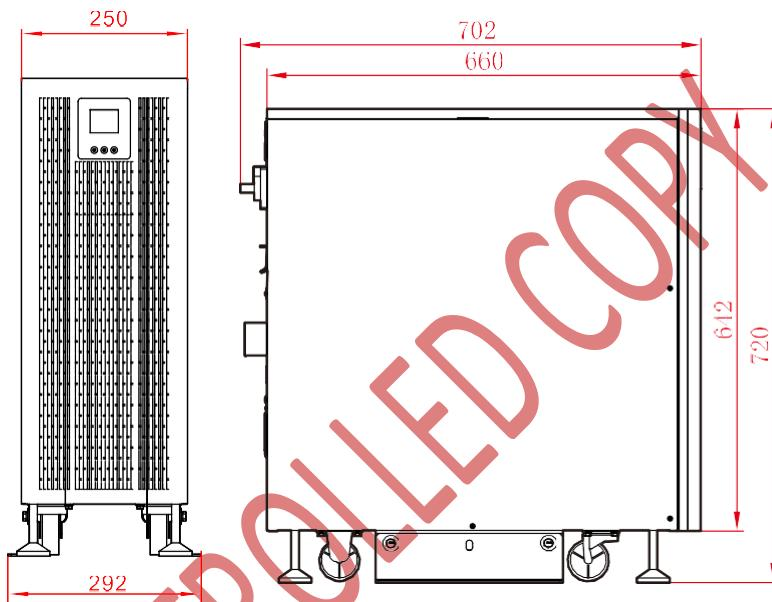

Figure3-4 Outer dimensions of UPS (unit: mm)
Step 1 Determine and plan the installation position according to the device size, as shown in Figure3-4.